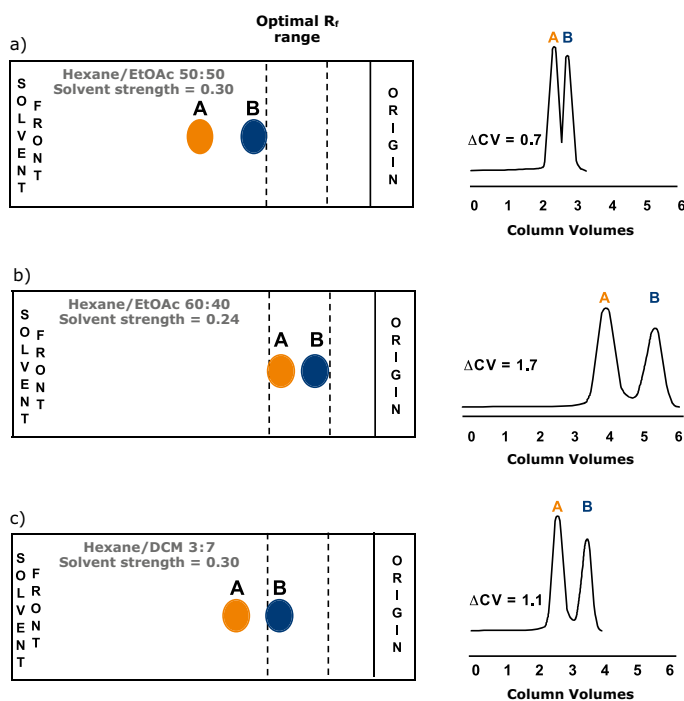

Figure 12. Examples of solvent strength on compound retention and resolution.
To bring the R_f of the compound of interest into the optimal range, reduce the amount of polar solvent in the mobile phase. As an example, in Figure 12, the results of a solvent selectivity study show a mobile phase of 50% hexane and 50% ethyl acetate (solvent strength = 0.30), providing adequate selectivity for a crude sample (Figure 12, top). The R_f for the compound of interest (B) is 0.4 (2.5 CV) and the R_f of the impurity (A) is 0.55 (1.8 CV), providing a ΔCV of 0.7. With a ΔCV this low, only a small sample amount can be flash purified before overload (resolution loss, low purity fractions) occurs. By weakening the solvent strength to 60% hexane and 40% ethyl acetate (solvent
strength 0.24) (Figure 12, middle); the R_f of compound B falls to 0.2 (5 CV) and impurity A's R_f is lowered to 0.3 (3.3 CV) with a resulting ΔCV of 1.7, enabling a potential fivefold increase in sample load on a flash cartridge (Table 4).
If you find adequate component retention with a particular solvent mixture, you can prepare other solvent mixtures of similar strength but different selectivity for comparison (Figure 12, bottom).